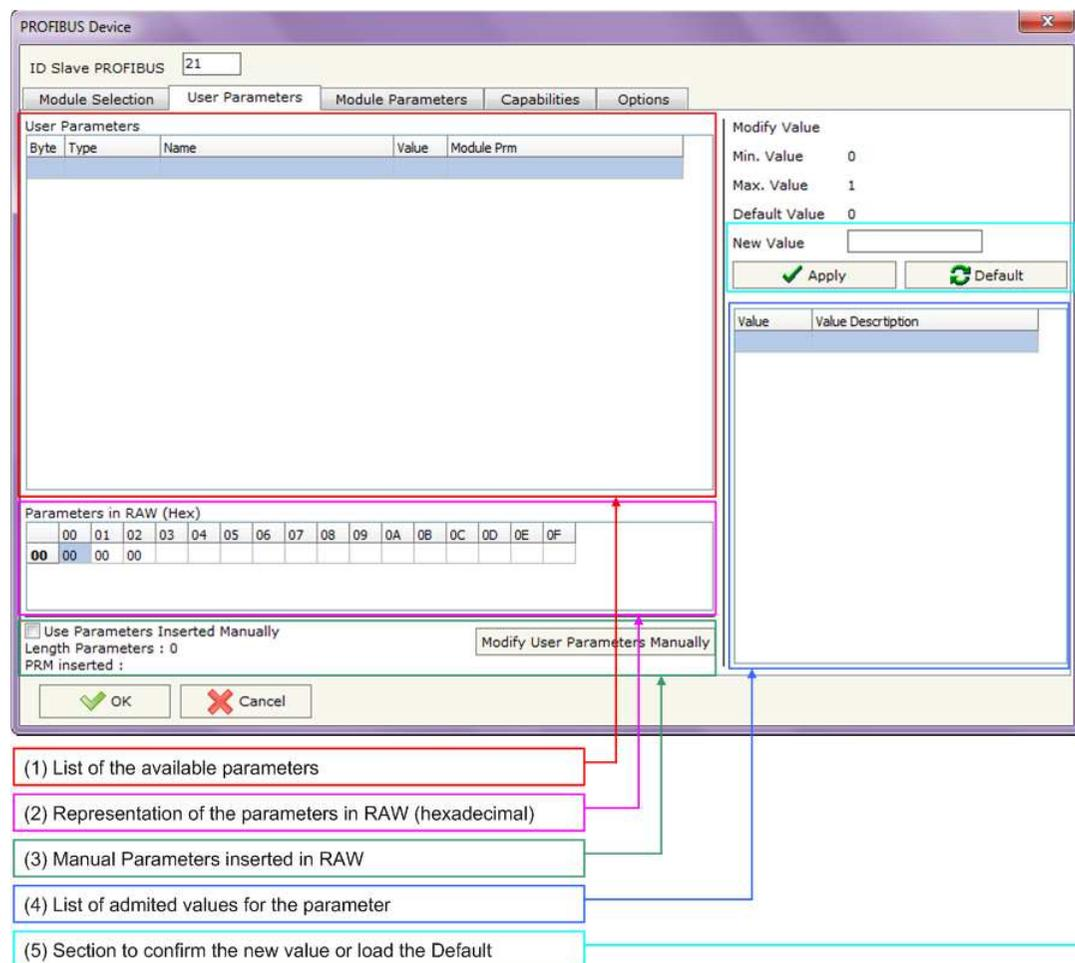

Figure 13: “PROFIBUS Device – User Parameters” window
The section “**User Parameters**” is used to modify the parameters of the PROFIBUS slave (Fig. 13).
- The List of all Parameters available for the PROFIBUS device (“User Parameters”) (Fig. 13, point (1));
- The Configuration of all parameters in RAW (“Parameters in RAW (Hex)”) (Fig. 13, point(2));
- The “**Use Parameter Inserted Manually**”, enable this option is possible to insert manually the parameters of Device and also of the Modules. Using the “**Modify User Parameters Manually**” button is possible to insert/modify the parametrization of the device (and/or modules). For more info see below. (Fig. 13, point(3));
- The admitted value for the selected parameter. It is possible to select the value desired and confirm it with the “**Apply**” button. If no value appears in this table, the “Min Value” and “Max Value” are the limit of the parameter. (Fig. 13, point(4));
- The “**Apply**” button is used to confirm the new value of the parameter, the “**Default**” button is used to load the factory value for the parameter. In “**New Value**” edit box it is possible to set the new value. (Fig. 13, point(5)).
By pressing the "**Modify User Parameters Manually**" button from the "PROFIBUS Device" window (Fig. 13) the "Add Module Manually" window appears (Fig. 14).